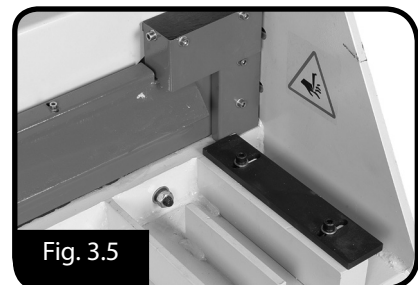

Fig. 3.5
- ☐ Place the squaring stop Fig 3.5 into position on the table top, securing into place with the bolts supplied. Check that the square stop is square to the blade. Adjust by loosening the bolts and moving by the amount allowed by the clearance of the holes.